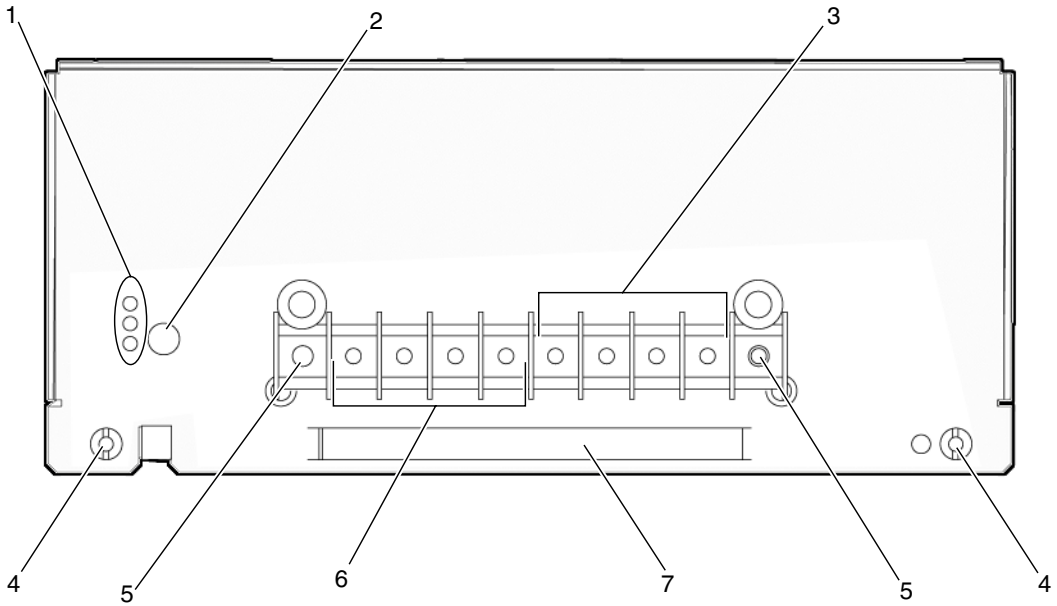

FIGURE 5-3 Power Entry Module Terminal Posts
6. Disconnect the cables from the terminal posts on the power entry module (FIGURE 5-3).
TABLE 5-2 Legend for FIGURE 5-3
7. Loosen the two captive screws that secure the power entry module to the shelf (FIGURE 5-3).
8. Use the handle at the bottom of the power entry module to pull the power entry module free from the shelf (FIGURE 5-3).
2. Secure the power entry module to the shelf using the two thumbscrews (FIGURE 5-3).
3. Connect the cables to the terminal posts on the power entry module (FIGURE 5-3).